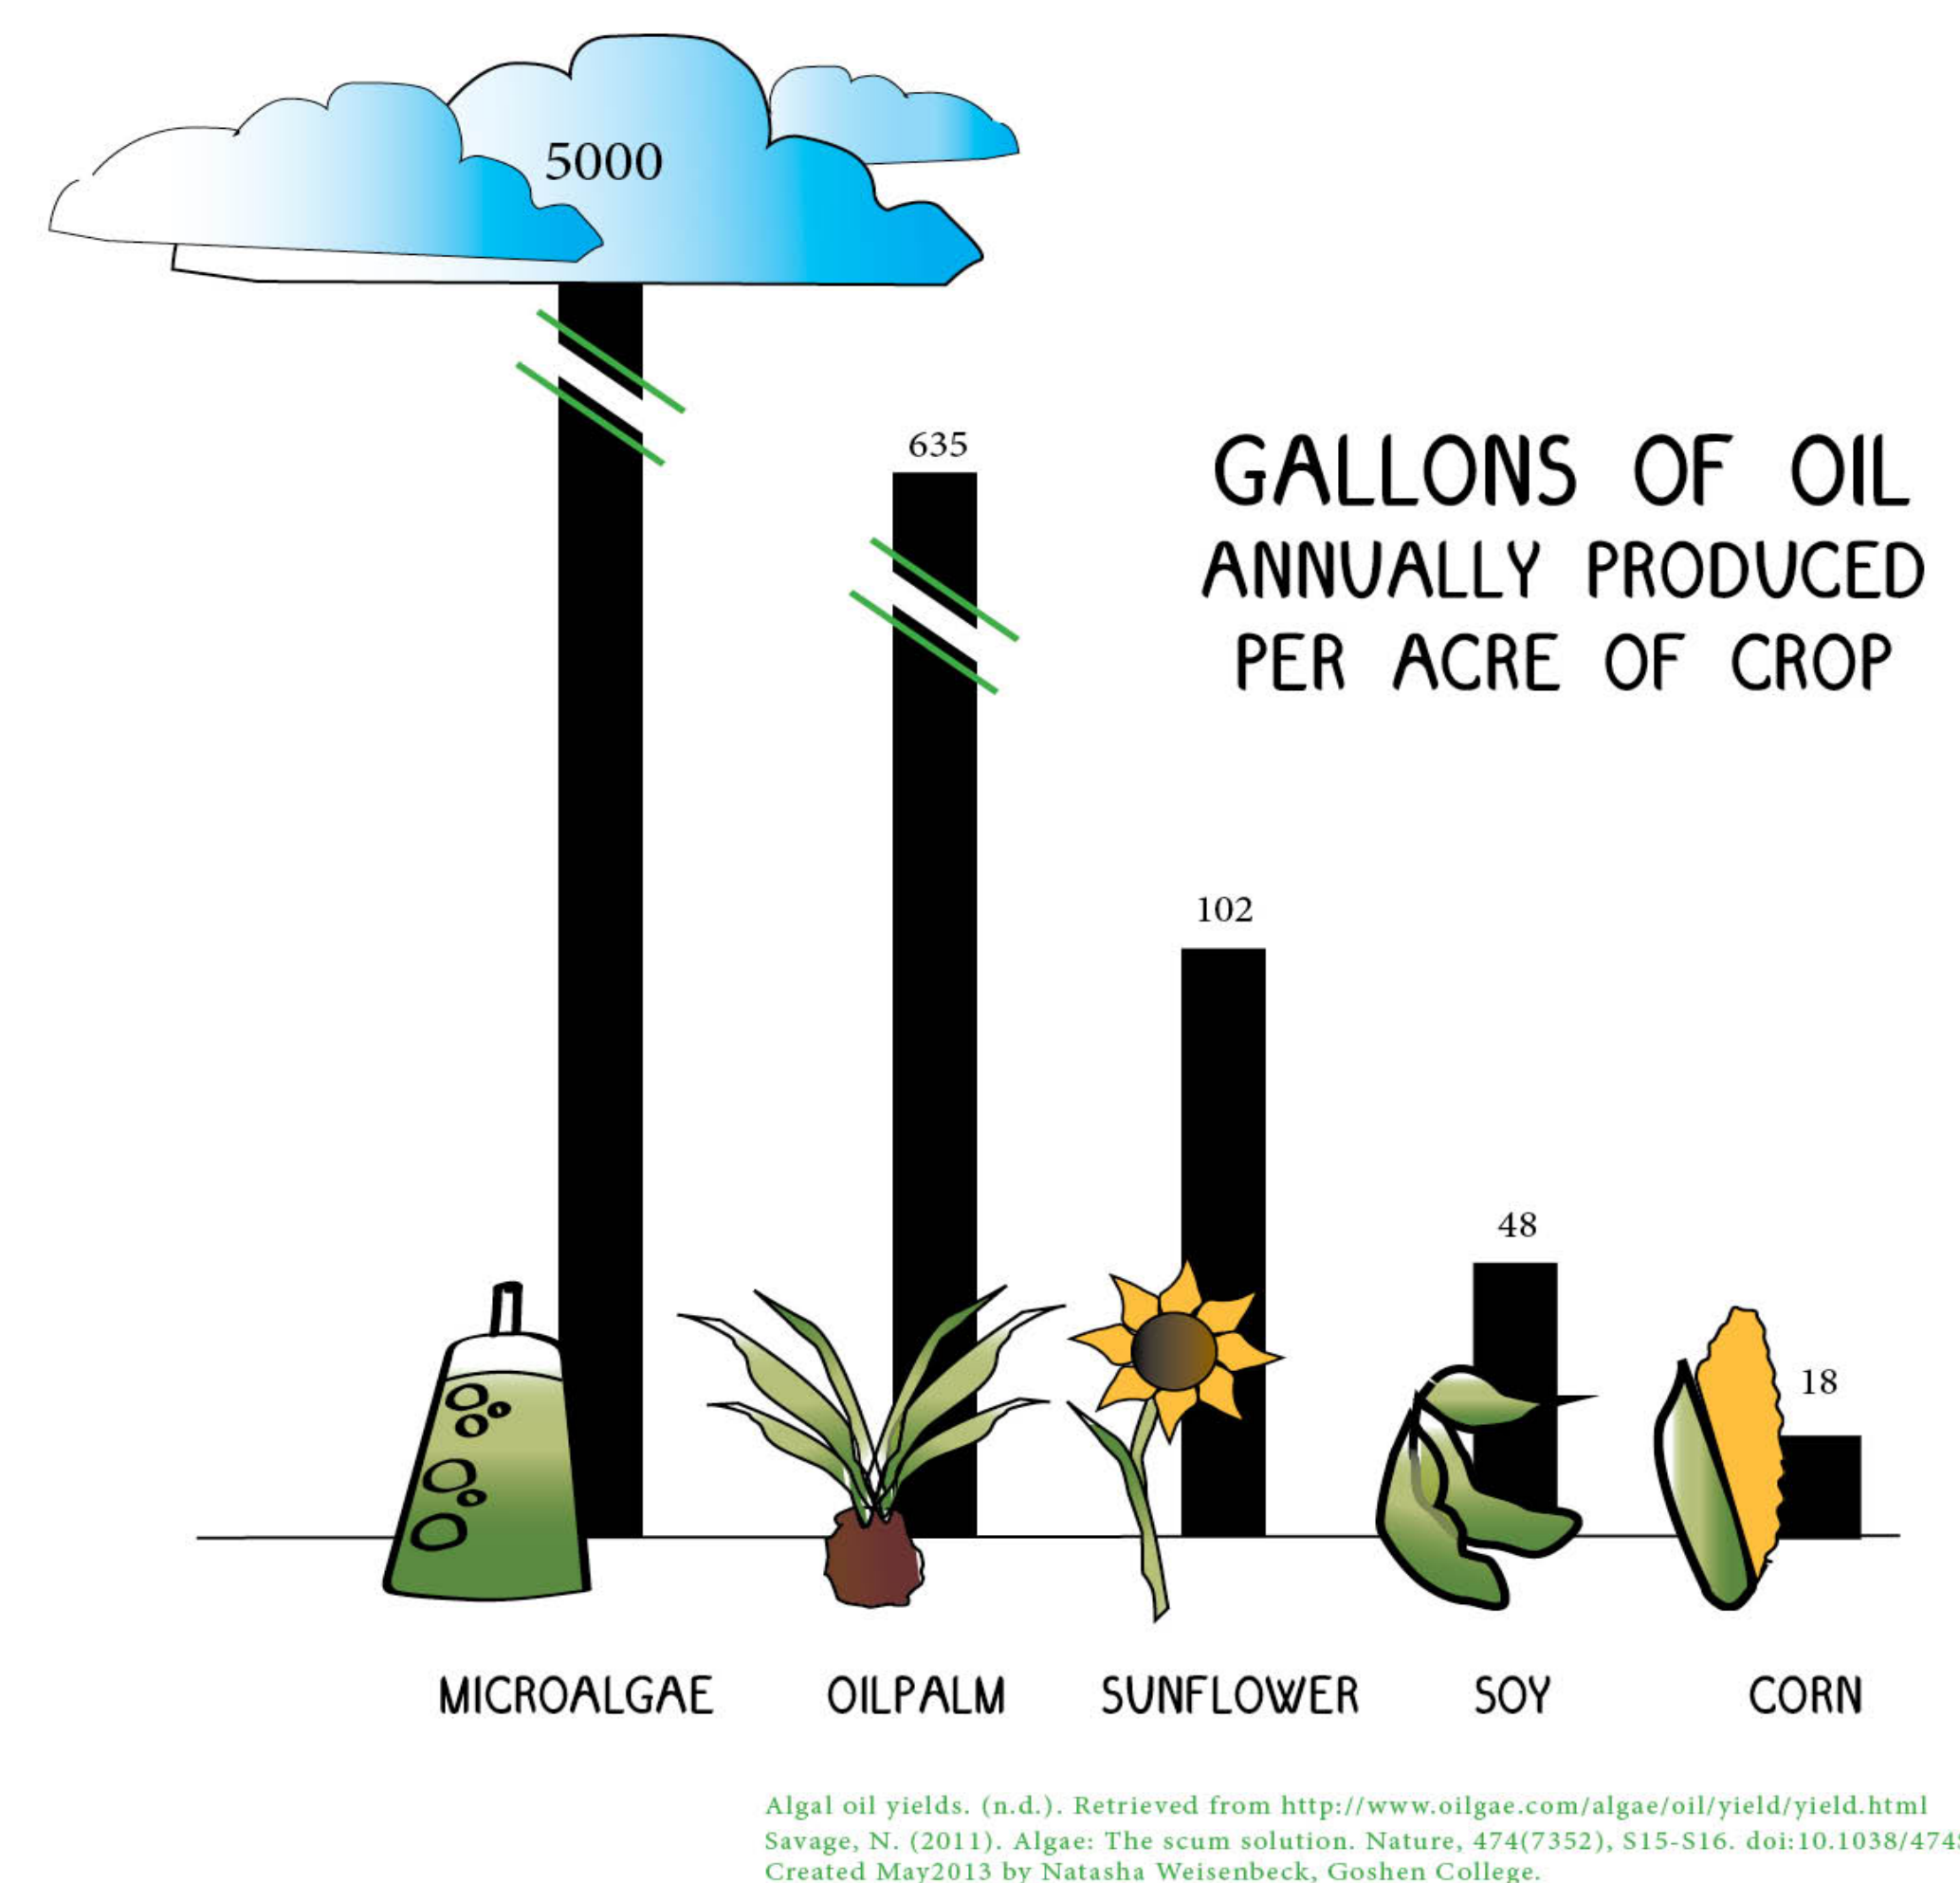

Figure 1: The graph to the left shows the gallons of oil annually produced per acre of several different crops.
- It also has the potential to produce vastly superior amounts of vegetable oil compared to terrestrial crops grown for the same purpose.¹(Figure 1)